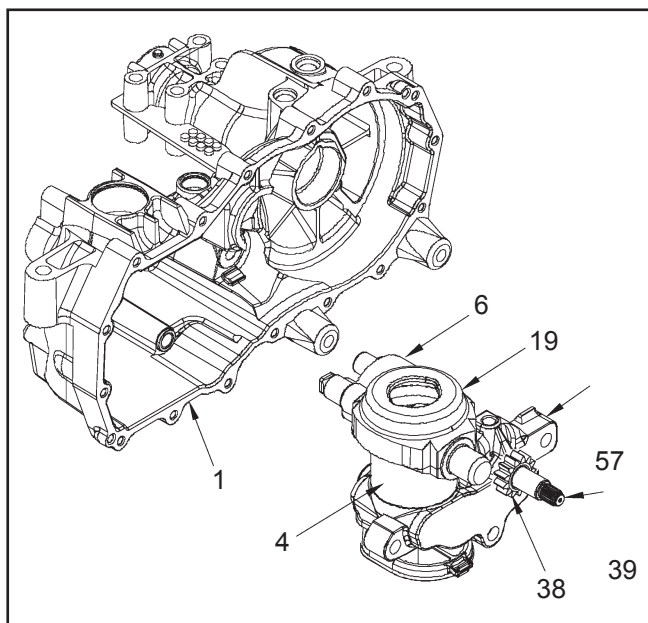

Figure 24.
14. *Care must be taken to prevent the scaring or scratching of the center section sealing face during this step.* Insert the shaft of the swashplate/pump block assembly (Figure 24) into the housing while simultaneously compressing the pistons in the block. NOTE: To assist in the installation of these components, insert the assembly until 3/4 of the pump block is covered by the center section. Then slightly press the shaft end toward the center section while pushing the shaft into its bore.